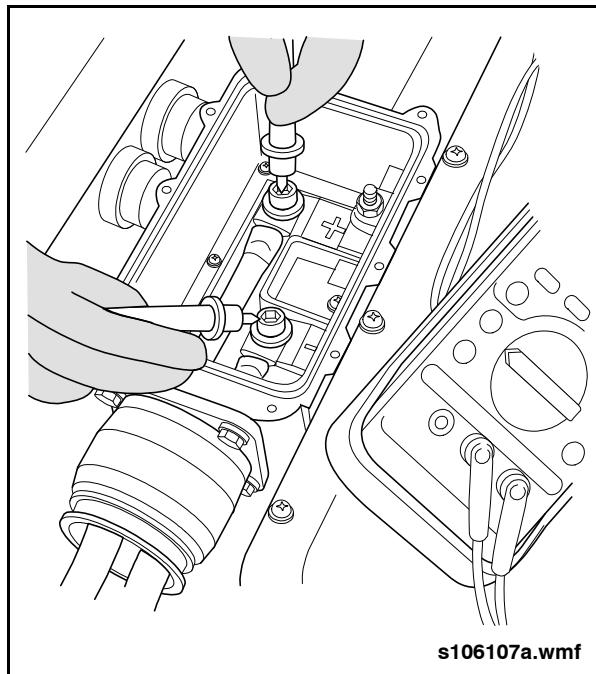

Fig. 57: Voltage Check Between DPIM DC HV Terminals
- a. DC positive terminal to negative terminal. See "Fig. 57: Voltage Check Between DPIM DC HV Terminals" on page 4. Voltage reading must be less than 3VDC before work can continue.